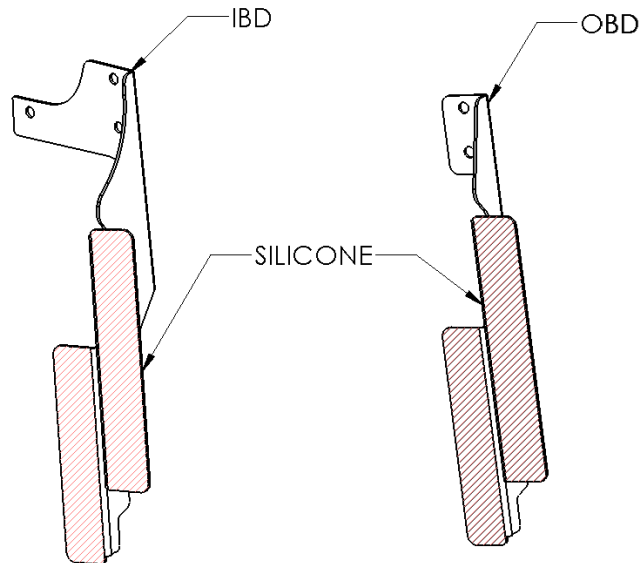

Figure 3
- a. Apply Silicone to face of all (4) Brackets assemblies (where they contact visor – as shown in Figure 3)